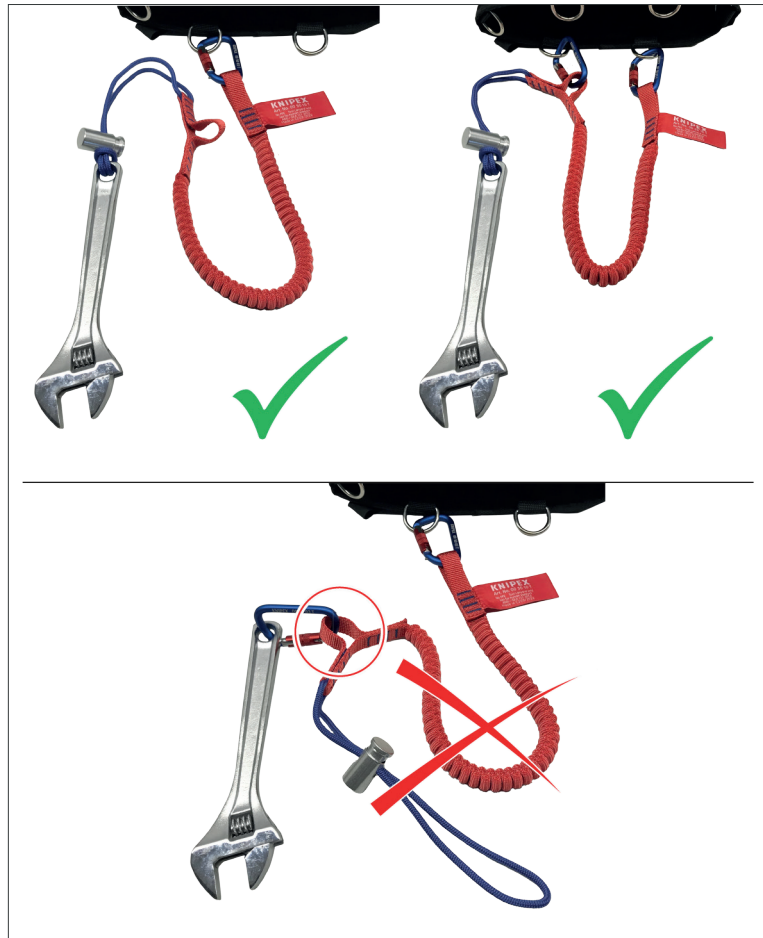

Figure 10: Abridge connection
- Do not use the loop for abridged connection to tether tools (Figure 10).
- Never use the flat belt loop for abridged connection for tethering (Figure 10).
This flat belt loop for abridged connection must never be used to secure a tool for fall protection (figure 10).